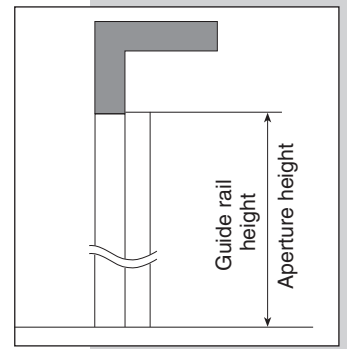

Fig 6
- a. Where headroom of 270mm or more is available guide rail length equals **aperture height** (see Fig 6).